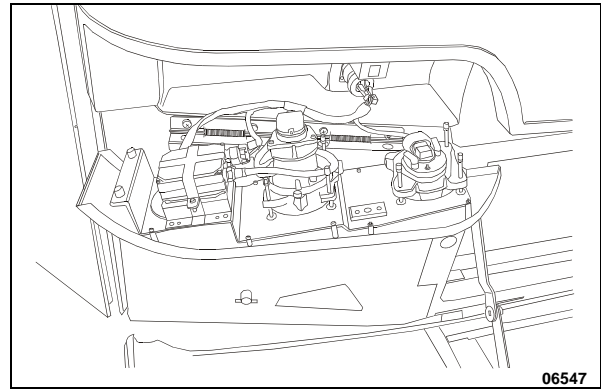

FIGURE 49: OPENING HEADLIGHT ASSEMBLY
Aiming can be performed without opening headlight assembly. Horizontal and vertical aiming of each module is provided by two adjusting screws that pivot the module in the housing for proper alignment (Figure 49). There is no adjustment for focus since the module is set for proper focus during manufacturing assembly.
2. Remove the headlight screw fixing the headlight assembly, then tilt headlight assembly down (Figure 49).